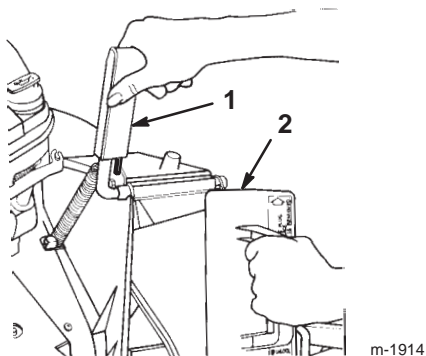

Figure 6
- Open the discharge door by pulling forward on the handle and moving it rearward (Fig. 6). Hold the discharge door handle to prevent the spring-loaded door from closing while you insert the plug.
- Since the plug is slightly wider than the discharge tunnel opening, rotate the plug clockwise slightly while inserting it (Fig. 6).